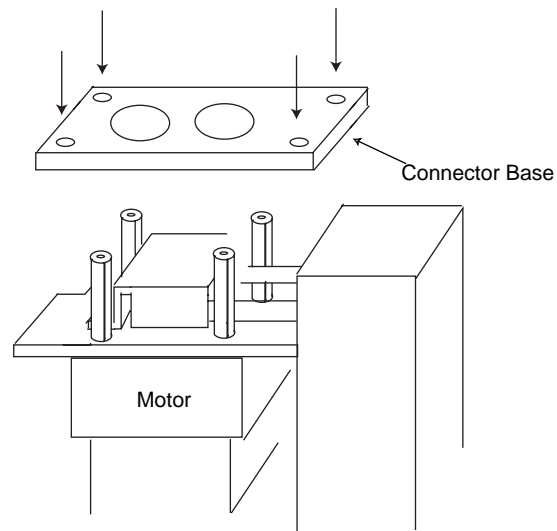

Figure B-13. Reinstalling Connector Base Plate
20. Install the connector base on the four stand-offs (see Figure B-13).